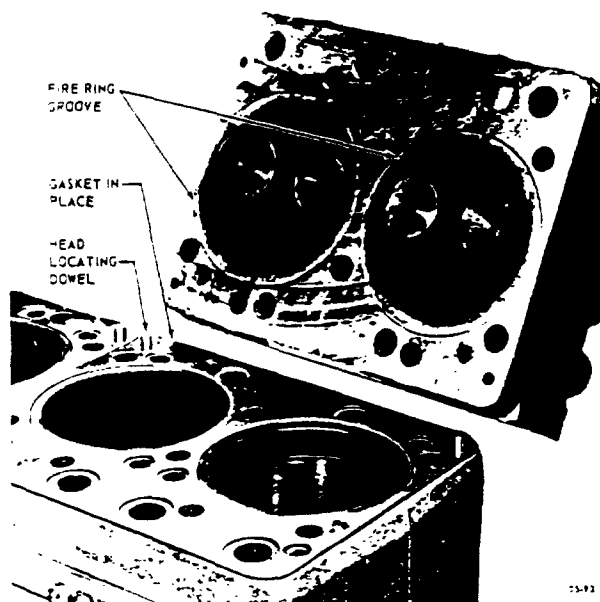

Figure 22. Gasket and Cylinder Head Over Cylinder Block
3. Check gasket position. Be sure that all passages are open and not blocked by the gasket. See Figure 22.